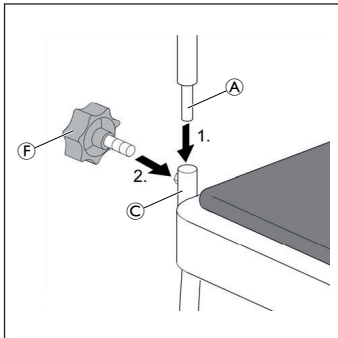

Fig. 2
1. Guide the backrest pipe (A) on both sides, from the top into the seat frame (C) (Fig. 2).
2. Turn the star head screw (F) one revolution from behind into the seat frame (Fig. 2).